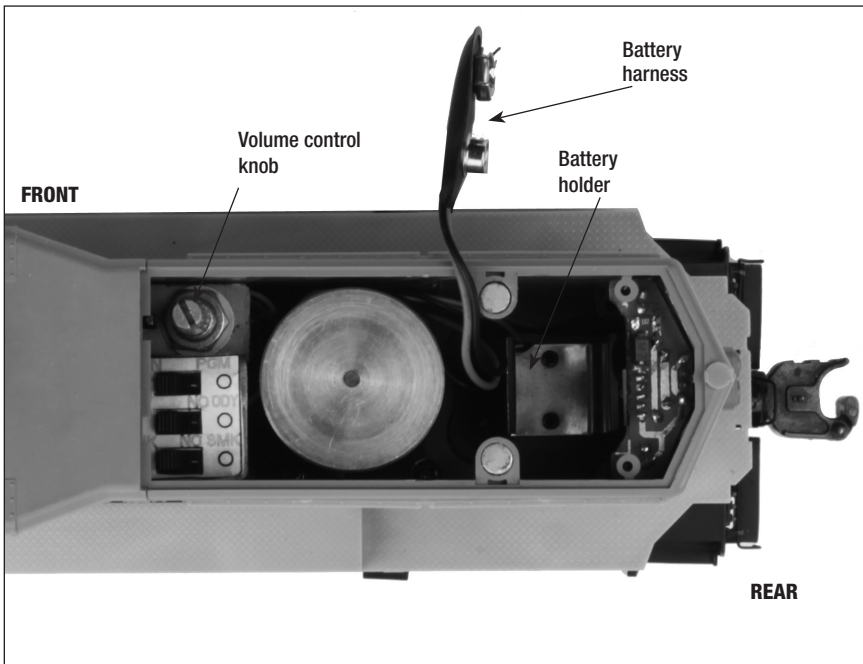

Figure 5. Battery installation
Use the **HORN** and **BELL** buttons on your transformer to activate those features. Adjust the volume using the volume control knob. Refer to Figure 5 on page 9 for the location of this control. For more information, please refer to the Conventional transformer operations section of this manual.
1. Carefully lift up and remove the roof panel as shown in Figure 5.